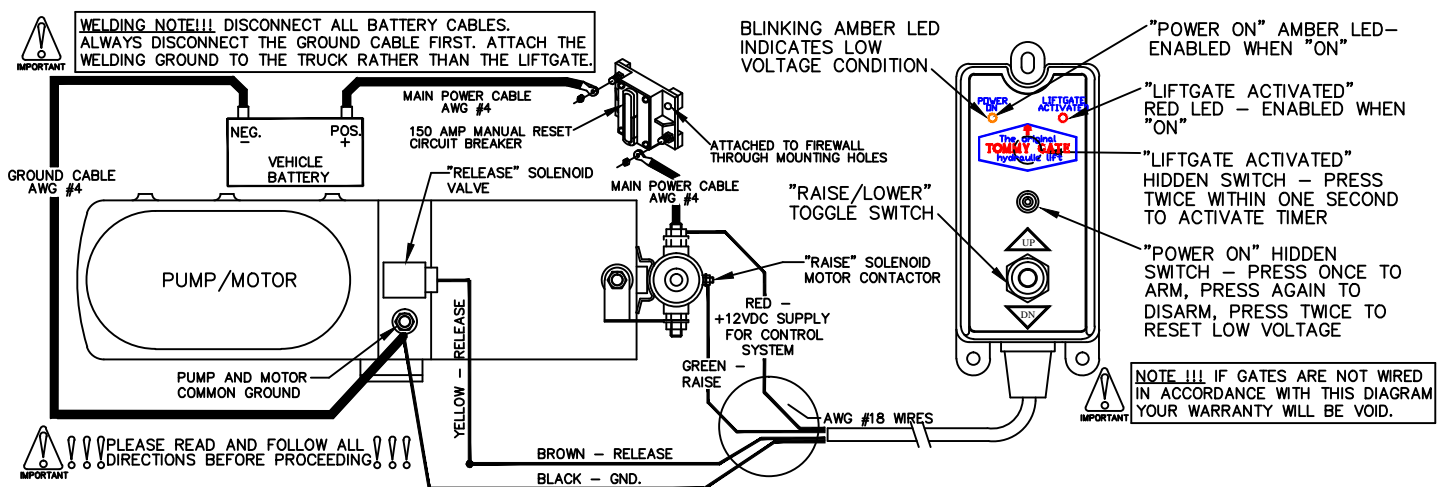

Figure 11: Wiring diagram.
2. **Push** the hidden "Power On" switch (Figure 11). The amber "Power On" LED will illuminate.
3. **Pull** the power cable (coiled up in the liftgate mainframe) carefully through the strain relief. Leave approximately two (2) inches of slack inside the liftgate mainframe.
12. **Connect** the circuit breaker and battery as outlined in the *Tommy Gate Recommended Electrical Wiring Guidelines* and wiring diagram (Figure 11).